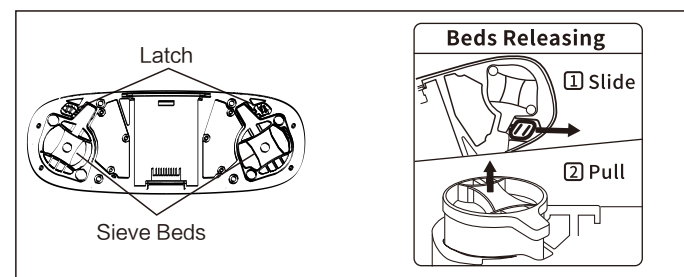

Figure 12
- Put the bottom of the device upward. Push the latch as the arrow direction to unlock the sieve bed, then pull out the sieve bed. As shown in Figure 12.